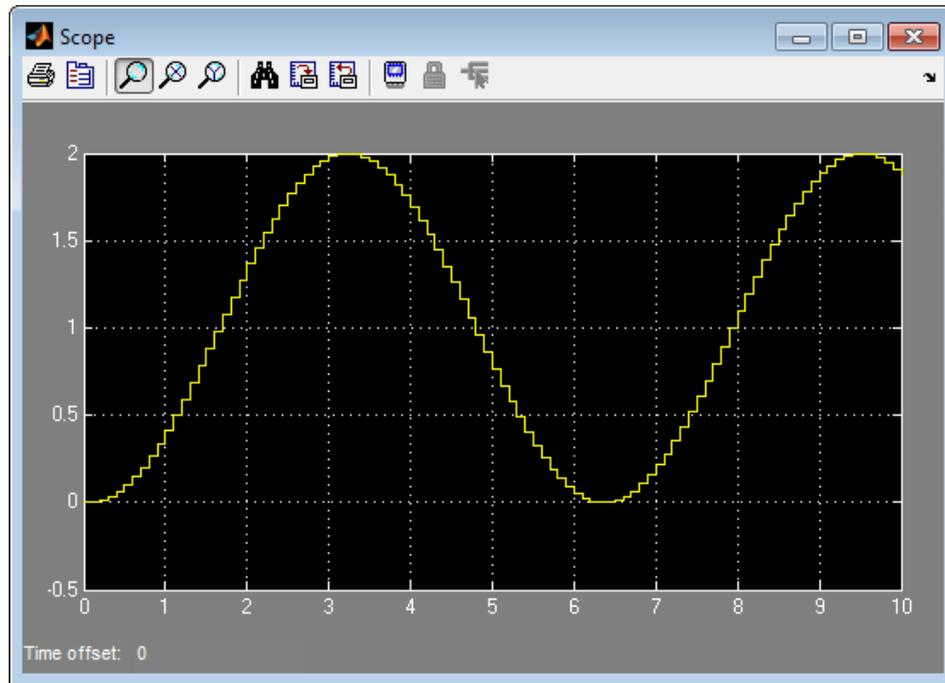

Figure 3.39 Simulation results of the integrated sine wave from the imported Co-Simulation FMU.
9. Simulate the model. The results from the scope is seen in Figure 3.39.